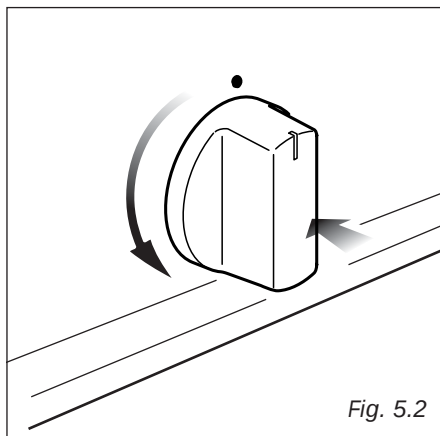

Fig. 5.2
- 2) Lightly press and turn the temperature knob anti-clockwise (fig. 5.2) to the max position (**270** ★ fig. 5.1).